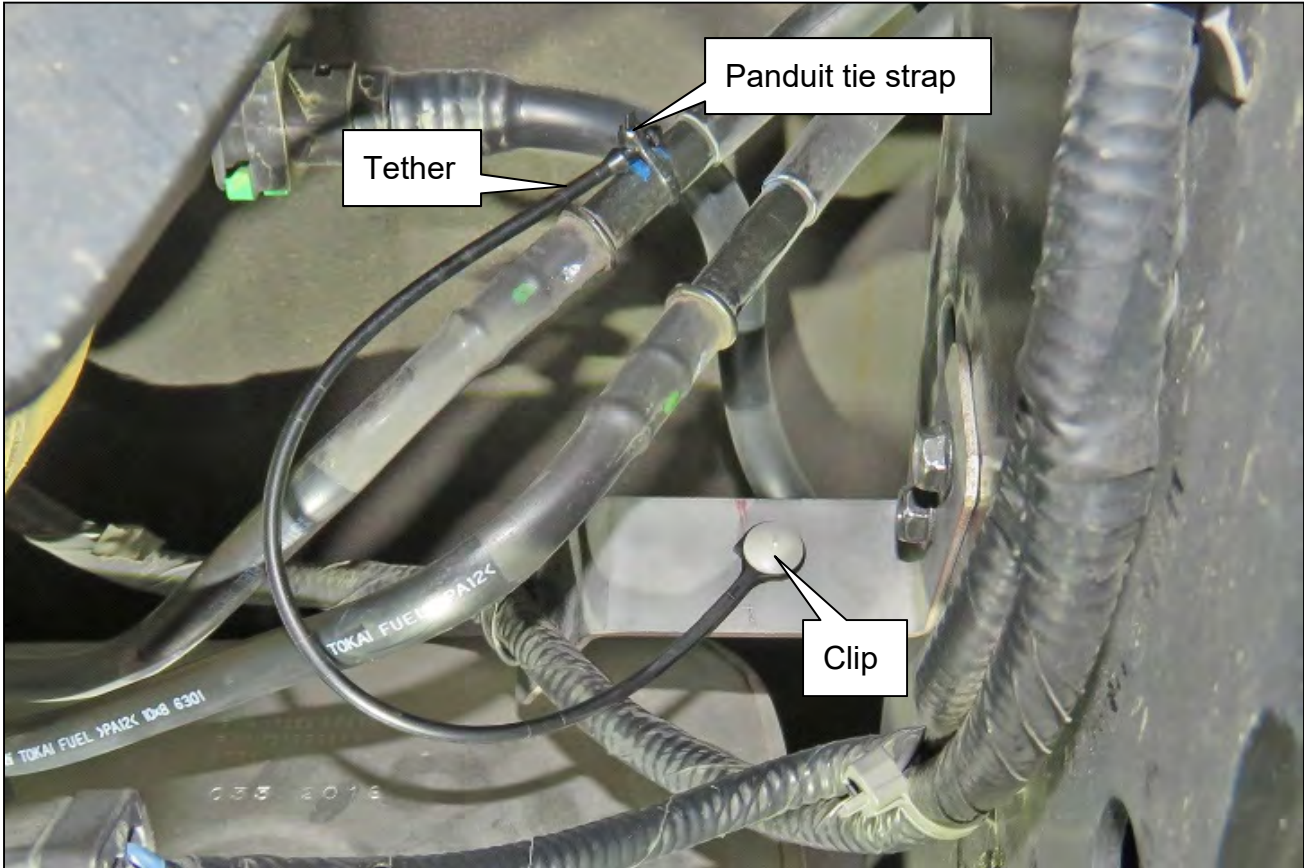

Figure 14
15. Trim the excess material from the Panduit tie strap as shown in Figure 14.